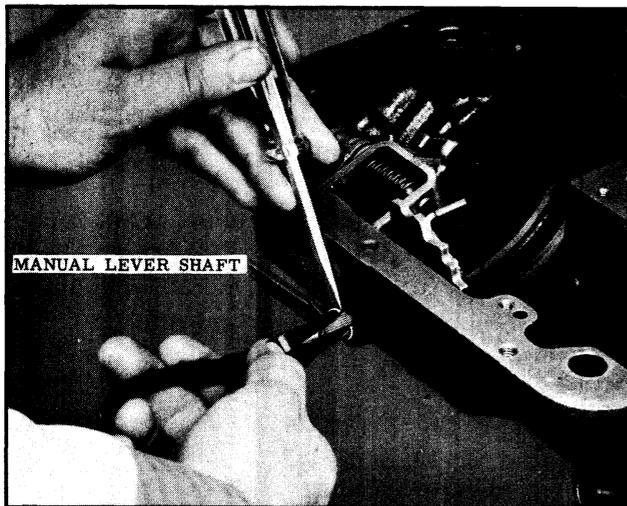

Fig. 3-46 Removing Retaining Ring
1. Remove the retaining ring from the manual lever shaft. (See Fig. 3-46)